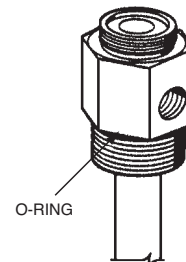

FIGURE 14
12. Examine threads on each adaptor and tank collar for nicks, burrs, or cross-threading. Clean and coat O-ring with a good grade of extreme temperature grease. Make certain bursting disc is in place and silver side is away from tank. See Figure 14.